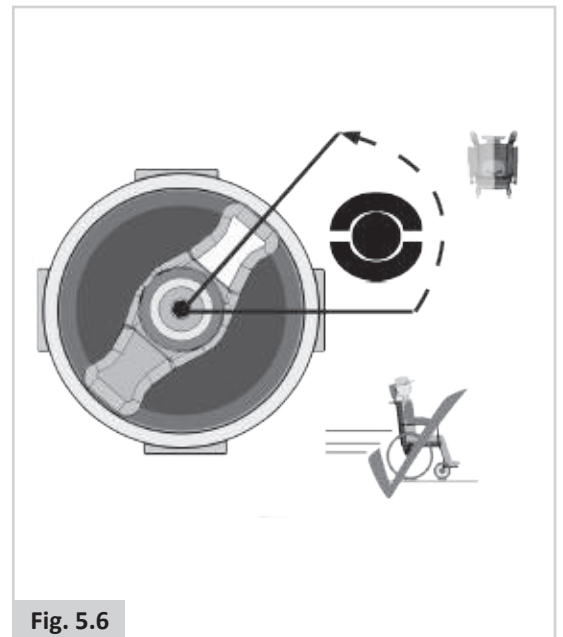

Fig. 5.6
1. For driving the wheelchair. (Fig. 5.6).